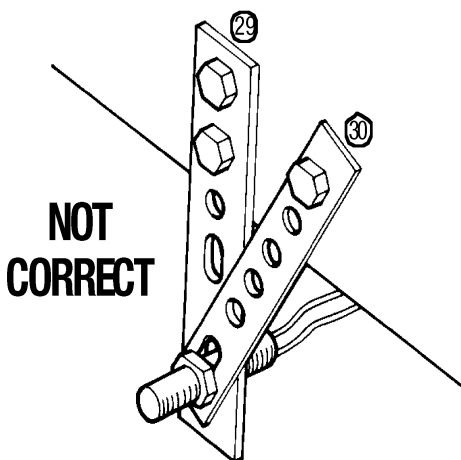

Figure 19: Wrong Way To Use Brackets
Choose mounting locations for the sensor mounting bracket (29) and support bracket (30). The support bracket reinforces the sensor mounting bracket against vibration. Do not mount the brackets as shown in Figure 19. After installing the brackets for the proper gap between the sensor tip and the magnet mount, adjust the large tie wrap so that the magnet passes opposite the end of the sensor. Cinch tie wrap tight against drive shaft. Check the alignment of the magnet mount with end of sensor by spinning tires if possible.
The support bracket reinforces the sensor mounting bracket against vibration. Do not mount the brackets as shown in Figure 19. After installing the brackets for the proper gap, adjust the large tie wrap so that the magnet passes opposite the end of the sensor. Cinch tie wrap tight against CV joint hub. Check the alignment of the magnet mount with end of sensor by spinning tires if possible.